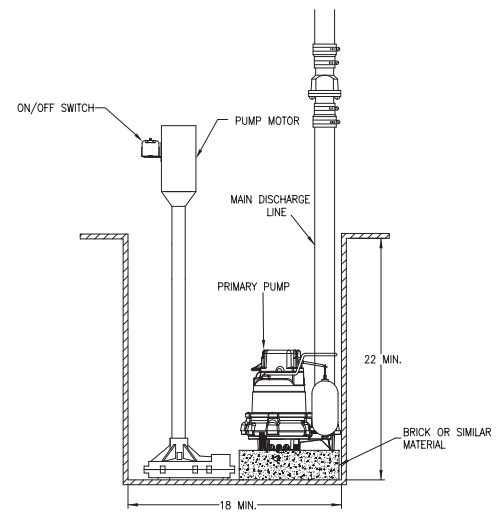

Figure 1.1
- 1.2) Place the pump in the pit making certain that it is on a stable level surface. Refer to Figure 1.1.